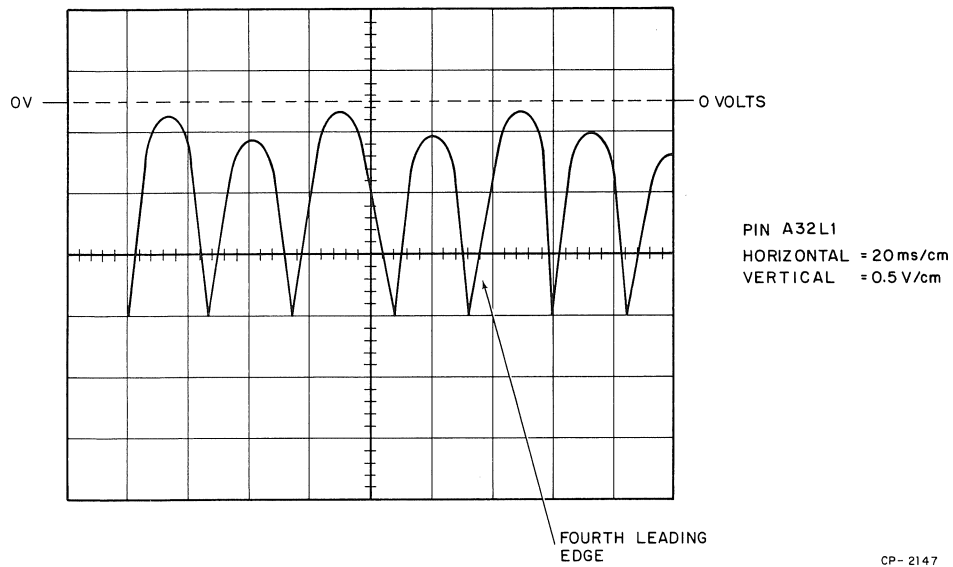

Figure 5-13 Capstan Waveform Showing 6-1/2 Pulses
4. Mount a skew tape and initiate FWD tape motion. Check that about 6-1/2 pulses appear on the screen. (See Figure 5-13.)